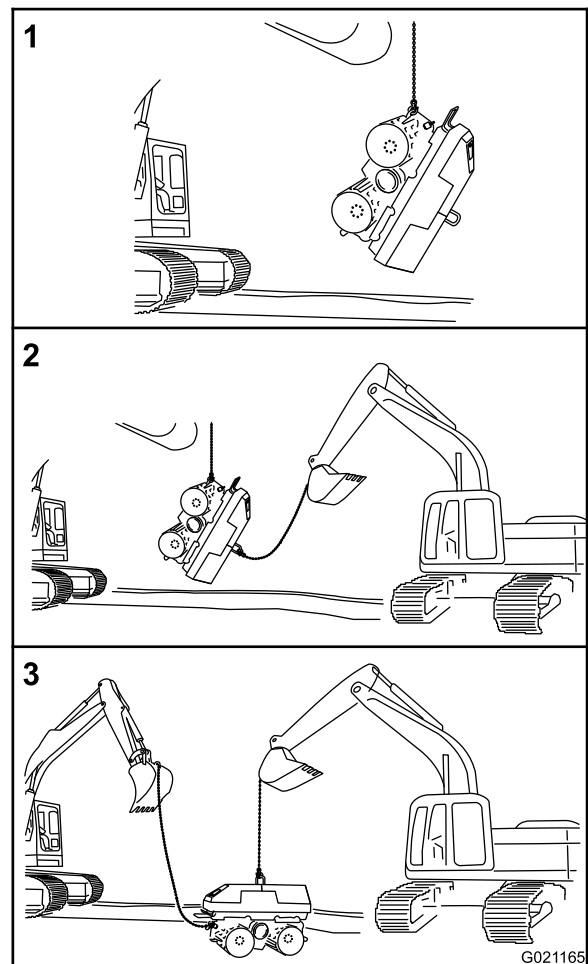

Figure 47
- A. Attach the first unit of lifting equipment to the forward or rear tie-down ring (Figure 47).
- B. Slowly raise the lifting equipment to rotate the machine vertical (Figure 47).
- C. Attach the second unit of lifting equipment to the lifting ring (Figure 47); refer to Lifting the Machine (page 30).
- D. Transfer the weight of the machine from the first unit of lifting equipment to the second lifting unit (Figure 47).
3. Lower the machine and disconnect the lifting equipment (Figure 47).